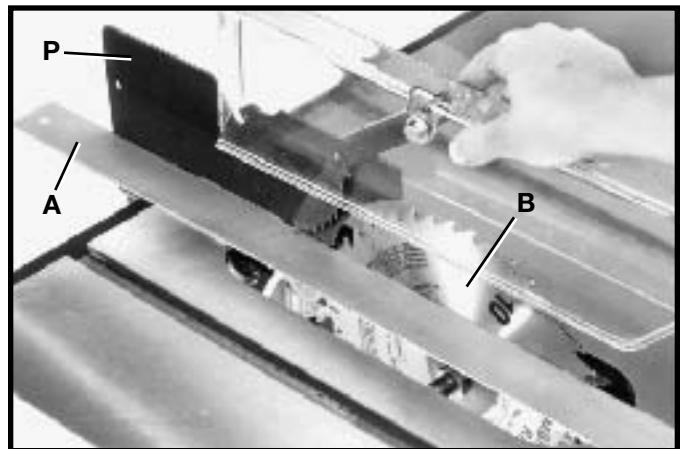
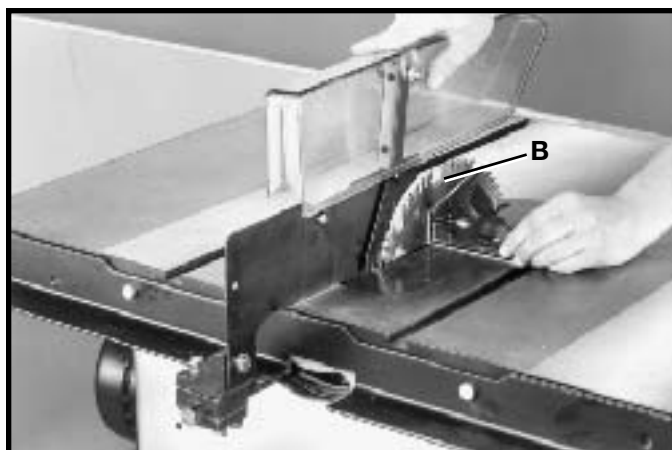
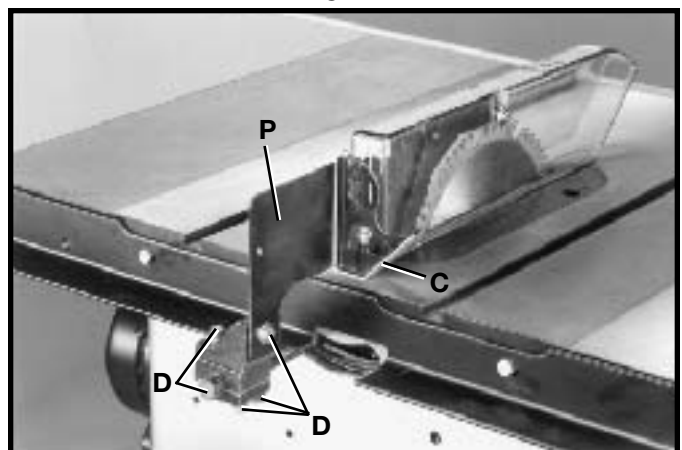

Fig. 35
Fig. 36
Fig. 37
12. Using a straight edge (A) Fig. 35, make certain the saw blade (B) is aligned with the splitter (P). Using a square (C) Figs. 36 and 37, make certain saw blade (B) Fig. 36, and splitter (P) Fig. 37, are 90 degrees to the table surface. Once you are certain the splitter is aligned to the saw blade and table, tighten all splitter mounting hardware (D) Fig. 37.